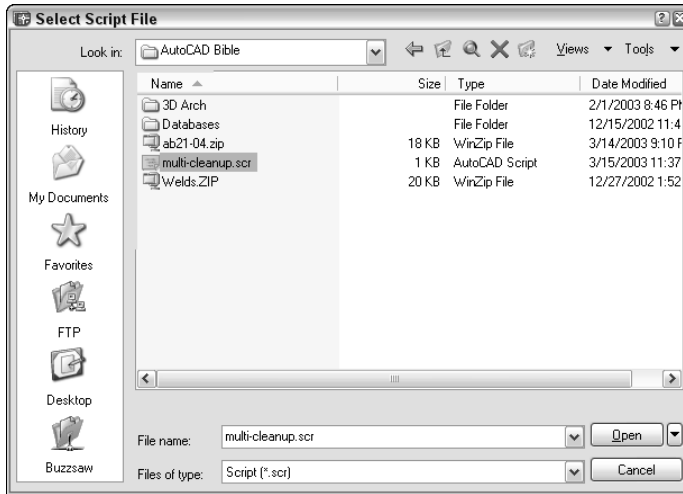

Figure 30-2: The Select Script File dialog box
1. Choose **Tools** ⇨ **Run Script**. This opens the **Select Script File** dialog box, as shown in Figure 30-2.